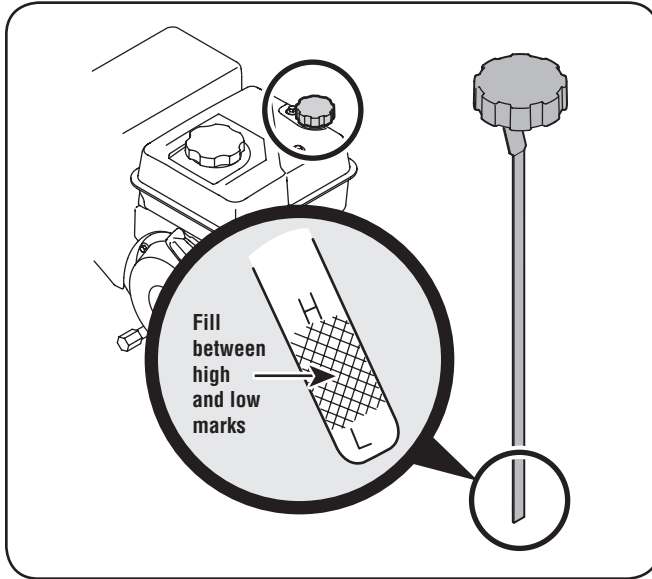

Figure 3-9
1. Remove the oil filler cap/dipstick and wipe the dipstick clean. See Fig. 3-9.
3. Remove the oil filler cap/dipstick. If the level is low, slowly add oil until the oil level registers between high (H) and low (L), Fig. 3-9. Refer to the Engine Maintenance section for the correct oil viscosity and engine oil capacity.